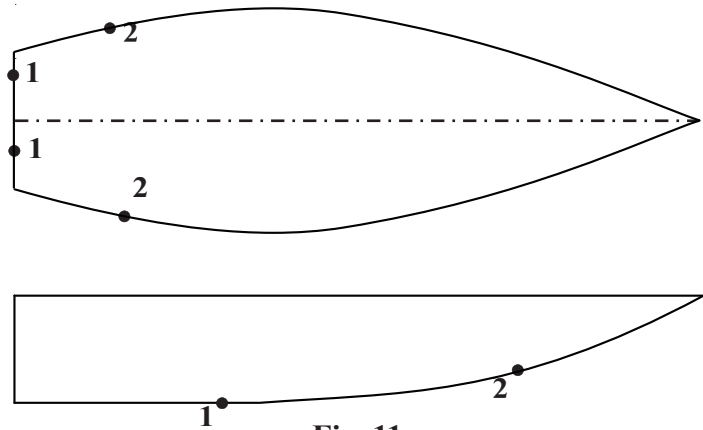

Fig. 11
Step 4. Trim three lines. Click the line to trim at Position 1, then trim to the spline at Position 2, **Fig. 11**. Repeat at the other two lines.